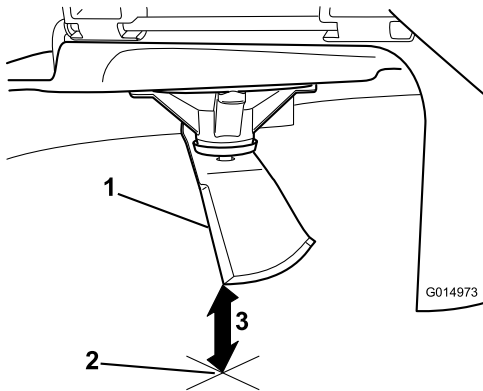

Figure 48
5. Measure from the tip of the blade to the flat surface (Figure 48).
4. Remove the hairpin cotter from the front support rod and remove the rod from the deck bracket (Figure 48). Carefully lower the front of the mower deck to the ground.